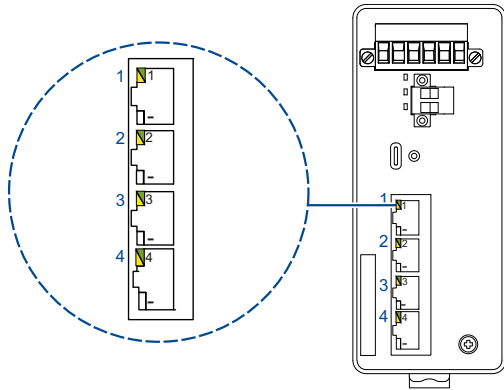

Figure 2: Position of the port display elements on the device variants with 4 × RJ45 sockets
- ▶ For the position of the port display elements on the device variants with 4 × RJ45 sockets see figure 2.